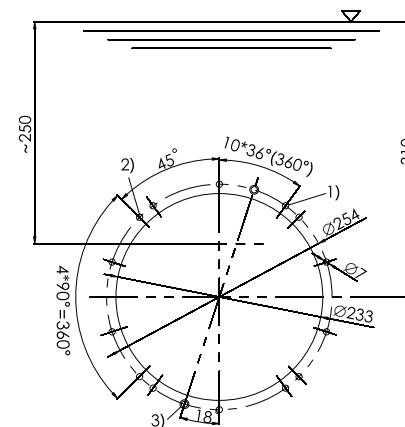
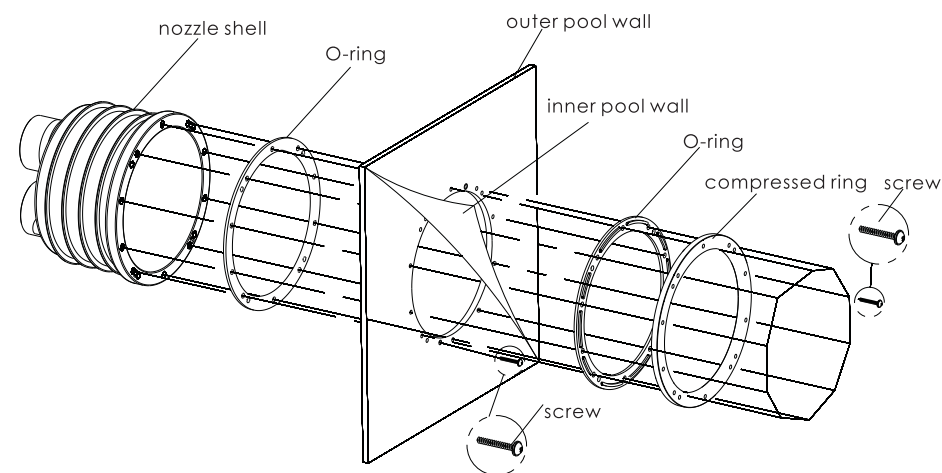

Figure 5
Figure 6
- a) For vinyl pool, according to the 16 holes on the counter current jet shell, first drill holes on the structural wall accordingly. ( Figure 5)
- b) Install the plastic ring and the outer shell with 2 M6\*20 screws (hole 3 of Figure 5 ), and then install the plastic ring and ring for installing on the fiber pool using 10 M6\*45 screws .(Figure6)